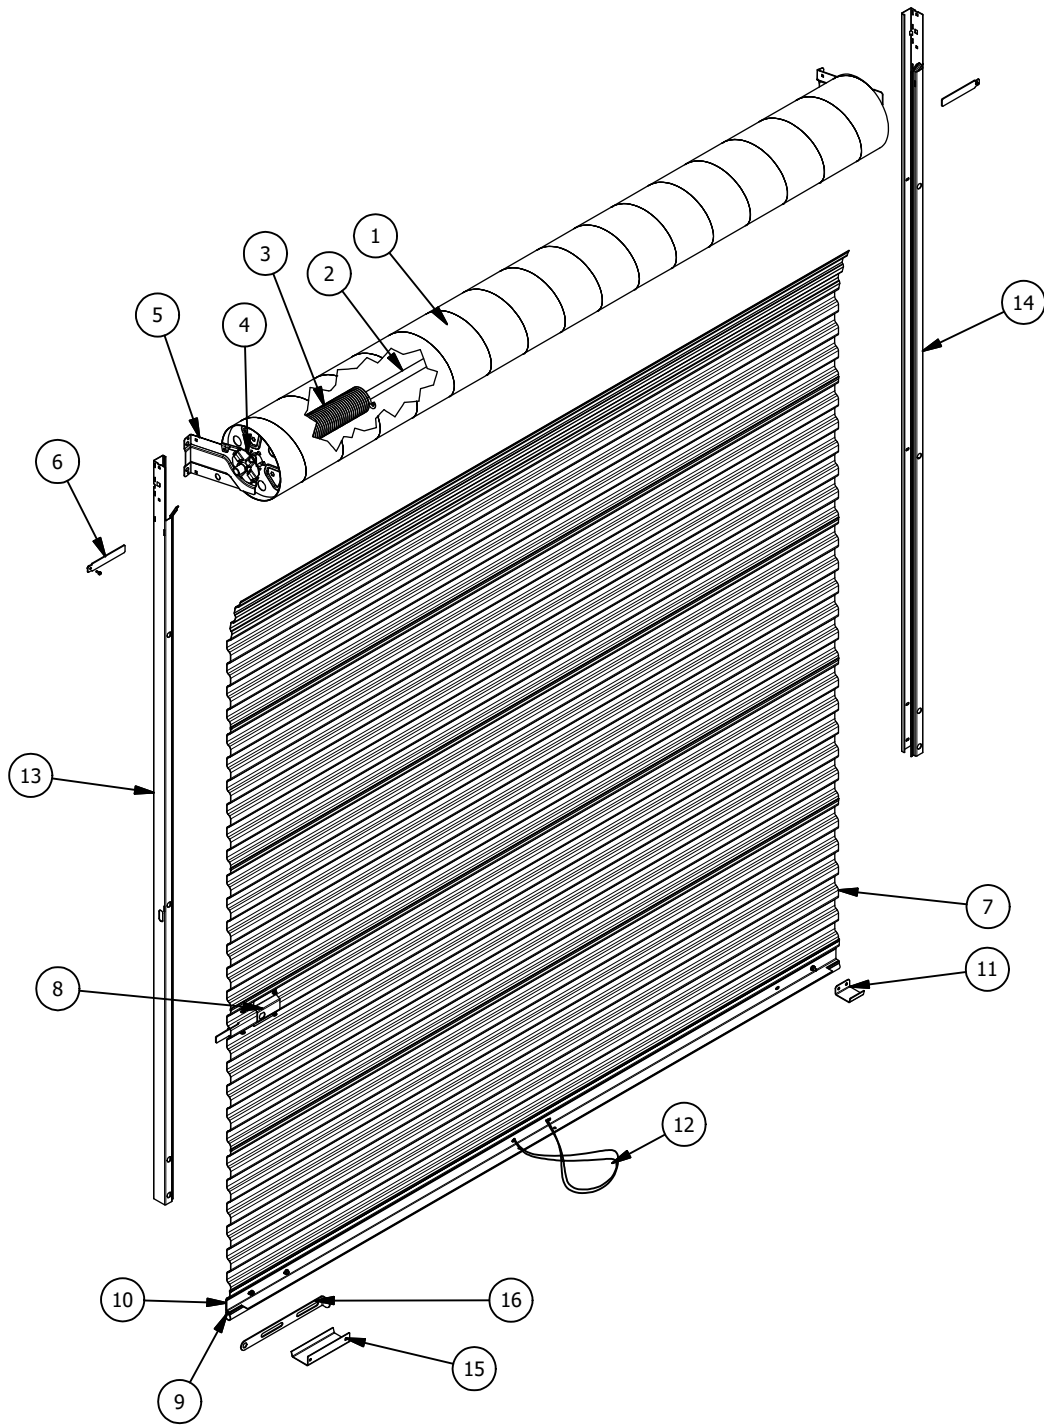

FIGURE 1
REVIEW DOOR ASSEMBLY AND GENERAL PARTS DESCRIPTIONS BILL OF MATERIAL FROM PAGE 4, FIGURE 1 TO FAMILIARIZE YOURSELF WITH COMMON PARTS OF ROLLING SHEET DOOR ASSEMBLY.
- ▶ Make sure all parts required for installation are with the door. **See page 4, Figure 1 for General Bill of Material**